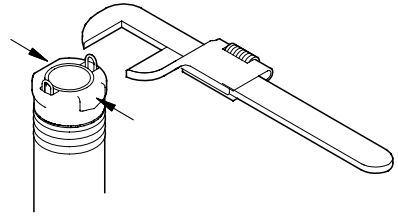

Fig. 9 Gripping the pump
- The pump should only be gripped by the two flats at the top of the pump, see fig. 9.